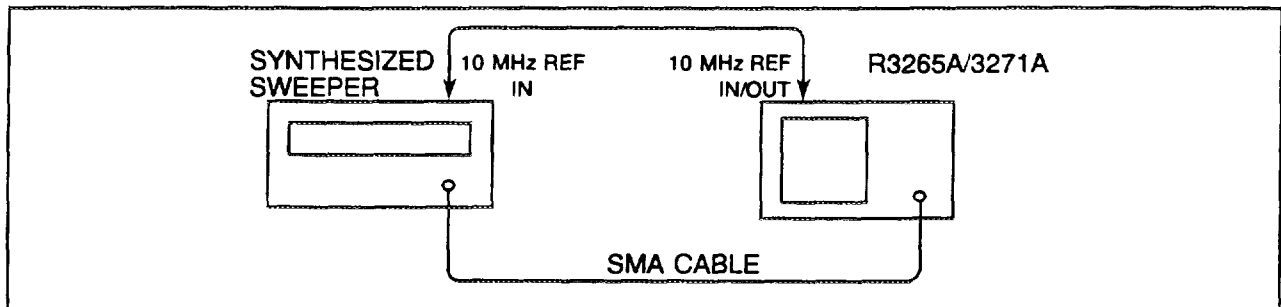

Figure 4-17 Input Attenuator Switching Accuracy Test Setup
- (2) Connect the equipment as shown in Figure 4-17.
(3) Set the synthesized generator controls as follows: